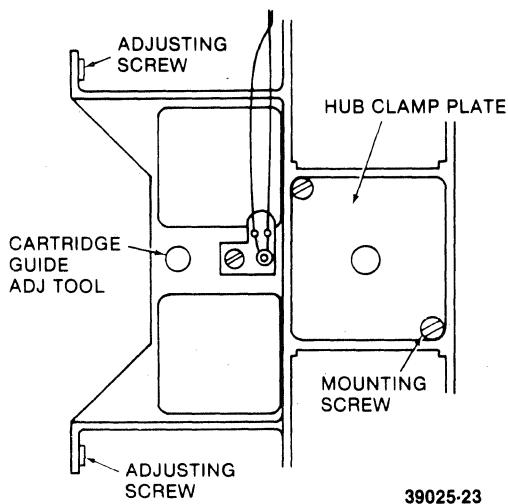

FIGURE 5-7. CARTRIDGE GUIDE ADJUSTMENT
- a. Remove hub clamp plate. See figure 5-7.
- a. Insert Cartridge Guide Adjustment tool (P/N 50377-1) through adjustment hole in cartridge guide and screw completely into base casting (hand tight). See figure 5-7.